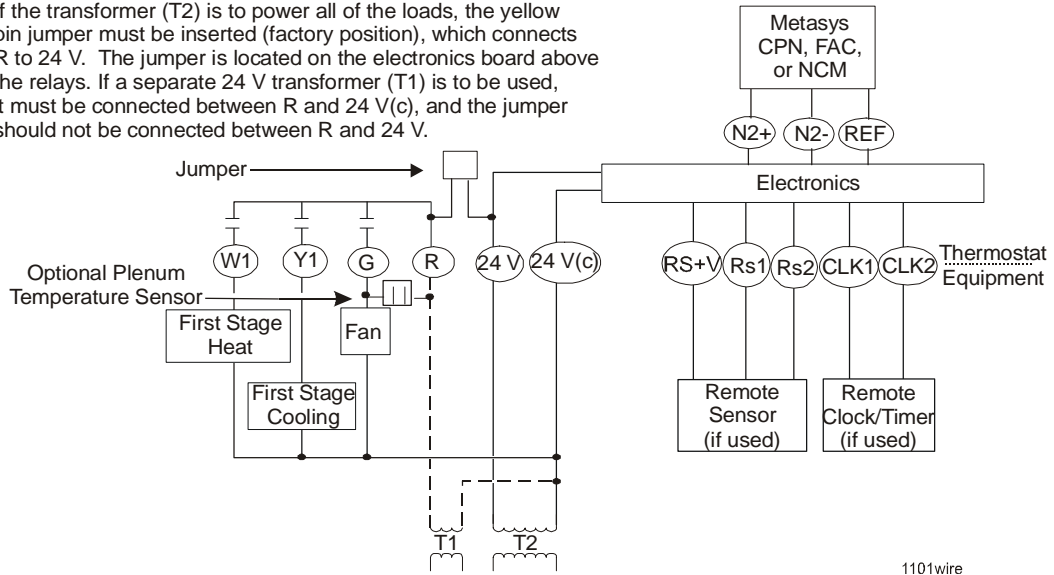
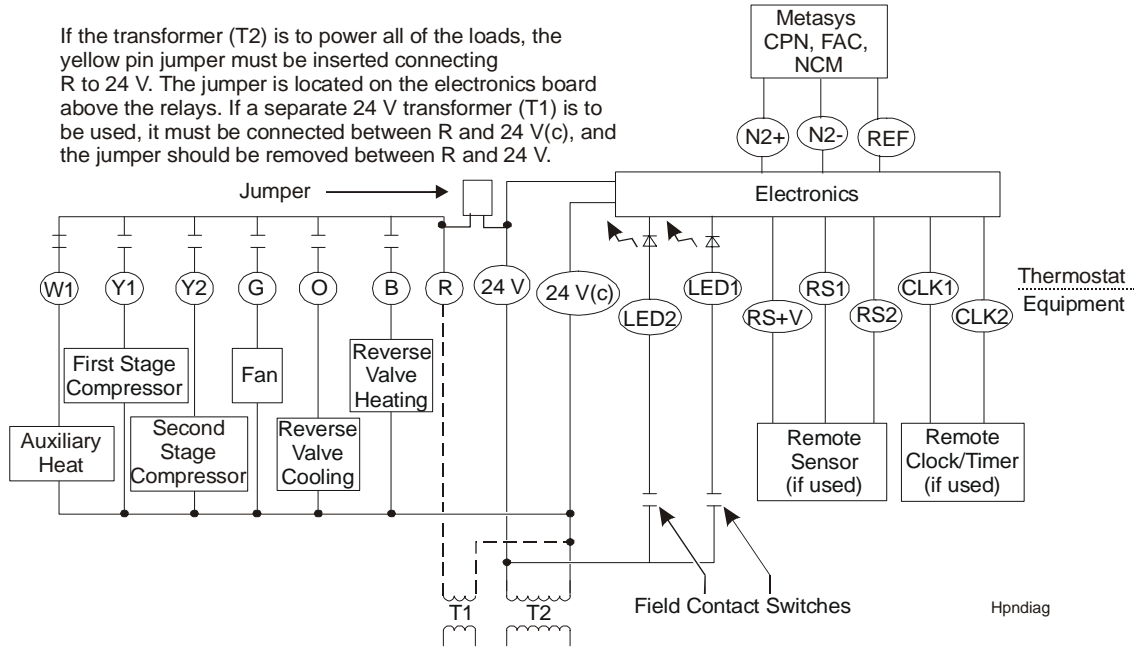

Figure 4: TEC1101 Single-Stage Wiring Schematic
Figure 6: TEC1102 Heat Pump Wiring Schematic
1. Connect the wires from the existing system to the thermostat terminals. Refer to Figure 4, Figure 6, and Figure 8 for wiring diagrams.